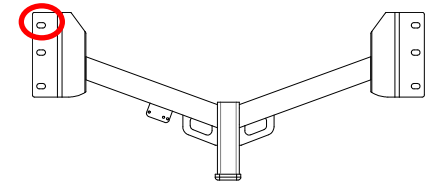

Figure 3
2. Lower exhaust by removing (2) M12 bolts from exhaust hanger bracket on each side. Use exhaust support stand to prevent damaging muffler. Return (4) screws to owner.
3. Raise and slide the hitch into position, starting from driver side. Loosely install (1) M12 bolt ① and (1) conical washer ② at the foremost slot on driver side, see Figure 3. Sandwich the hitch bracket between exhaust hanger bracket and frame rail on both sides. Loosely install the rest of fasteners to the exhaust hanger bracket on both sides.